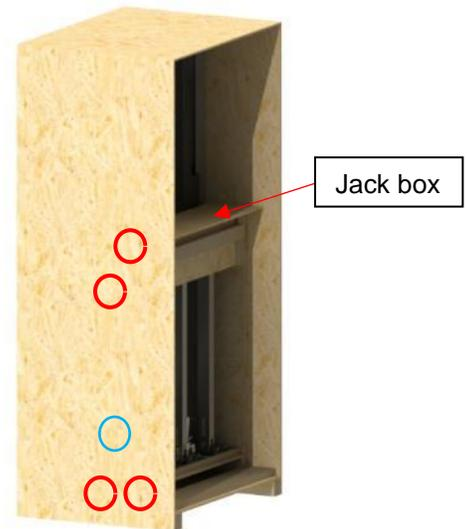

Figure 37
- 10) Unscrew the Robertson #8-10 x 1.5” screws holding the jack box – four screws per side: two screws at the top, two screws at the bottom. The blue circle represents the screw holding the crate, the jack box and the binding blocks. This screw is only on the left side of the crate. Unscrew it as well. (Figure 37)